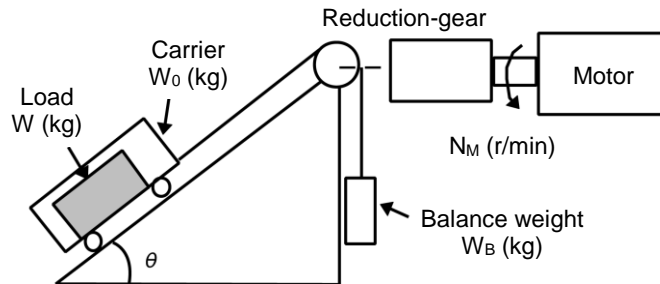

Figure 9.8 Inclined Lift Load
If the incline angle is θ , and the friction coefficient is μ , as shown in the Figure 9.8, the driving force F (N) is expressed as follows: